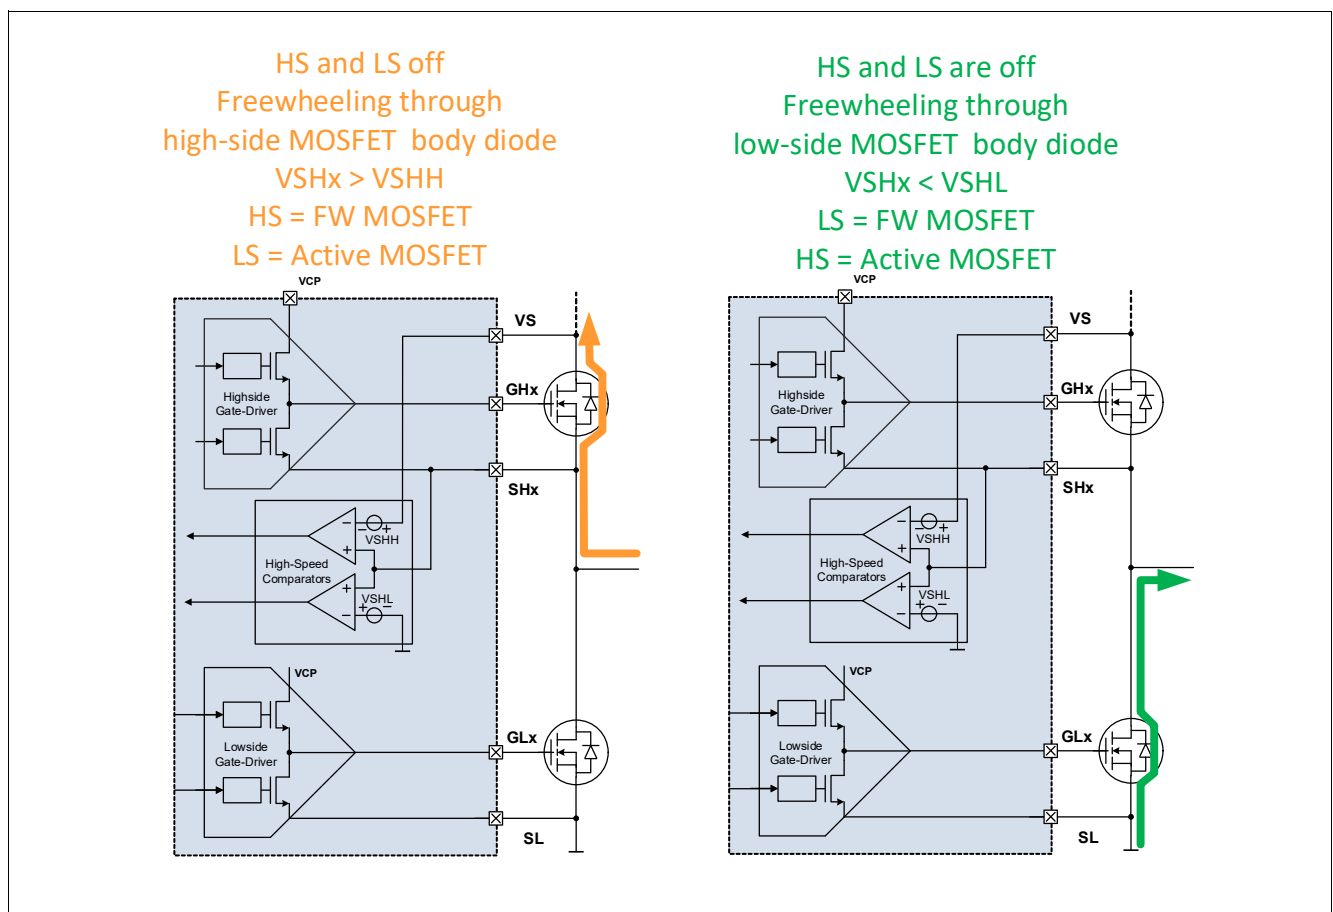

Figure 40 Detection of the active and FW MOSFET (**EN_GEN_CHECK** = 1)- Principle
If **EN_GEN_CHECK** = 1, right before each MOSFET activation, the device detects which MOSFET of the half-bridge is the active MOSFET and which MOSFET is the free-wheeling (FW) MOSFET (**Figure 40**):